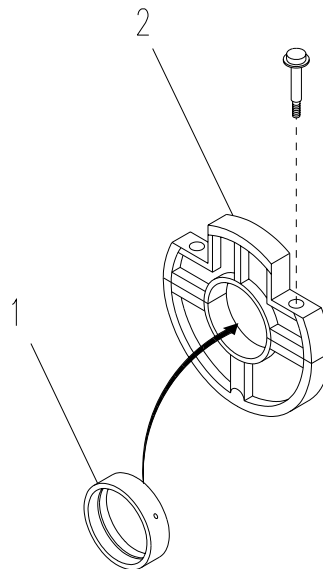

Figure 6-26. Crankshaft Bearings 2 and 3
- a. Remove bearing (1, Figure 6-26) from bearing case assembly (2).
- b. Install bearing (1) in bearing case assembly (2).